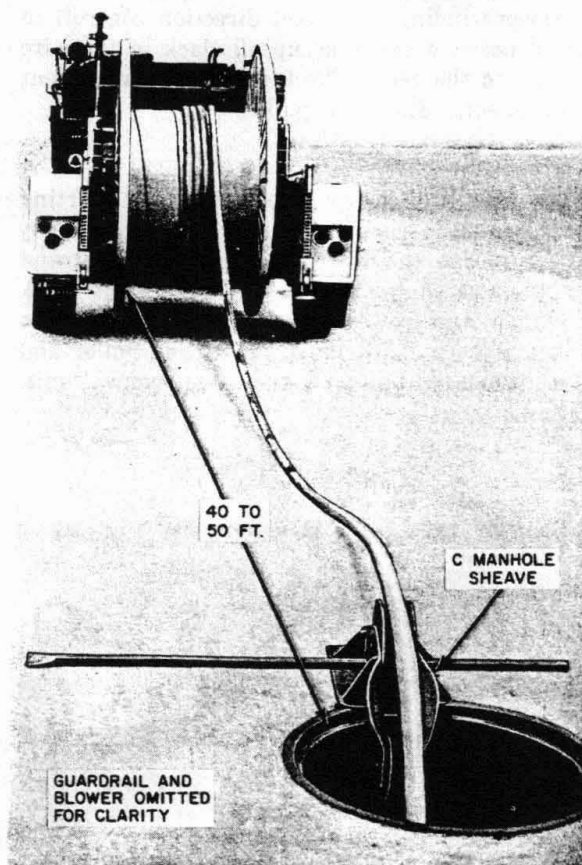

Fig. 10—Repositioning the Removal Unit
5.08 After the pull has been started, the removal unit may be moved forward 40 to 50 feet with the truck (Fig. 10) to allow the cable to level-wind freely. Move the truck very slowly with the unit still pulling. After the desired distance